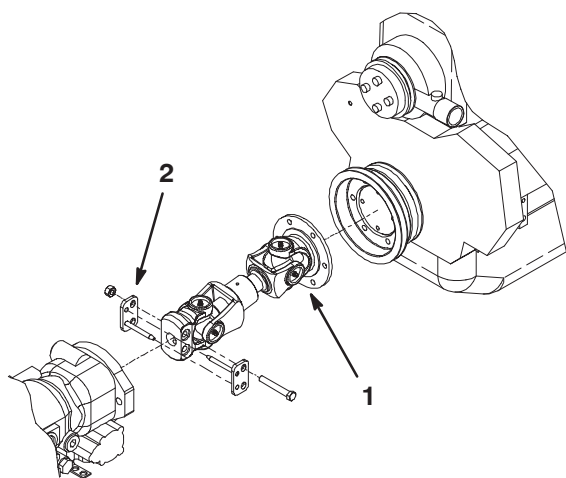

Figure 1
3. Mount the new driveshaft to the engine with the capscrews and washers previously removed (Fig. 1). Torque the capscrews to 38-42 ft-lbs.
4. Insert the drive shaft onto the splined pump shaft and loosely secure with driveshaft keepers, bolts and nuts as shown in figure 1. Do not tighten.